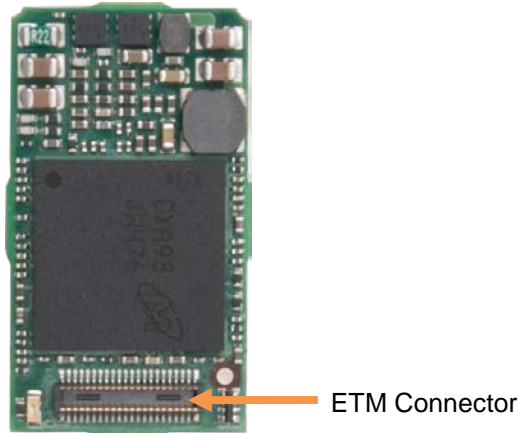
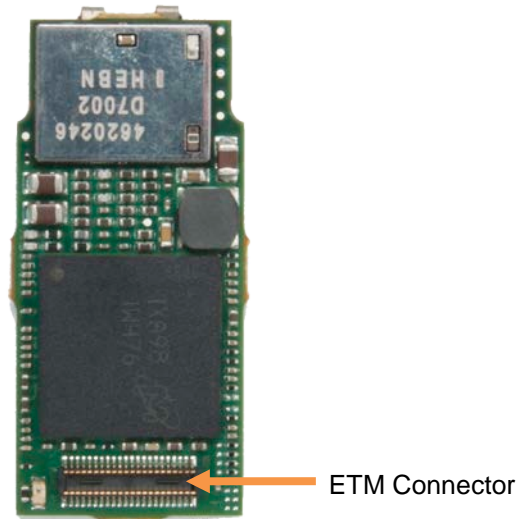

Figure 9.1: ETM Connector on DM3730 Torpedo SOM
Figure 9.2: ETM Connector on DM3730 Torpedo + Wireless SOM
1. Locate the ETM connector on the SOM. See Figure 9.1 for the location of this connector on the DM3730 Torpedo SOM. See Figure 9.2 for the location of this connector on the DM3730 Torpedo + Wireless SOM.